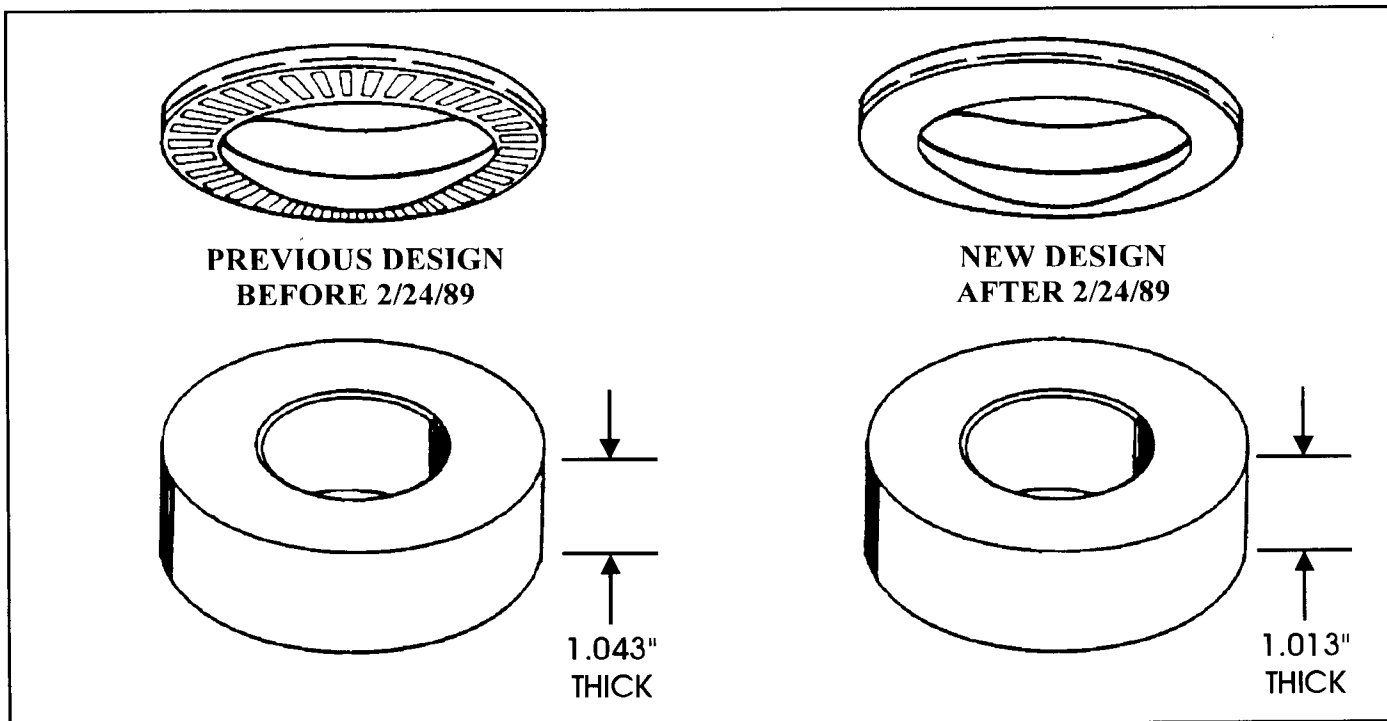

Figure 30
- (1) **LOW ROLLER CLUTCH INNER RACE** - As of 2/24/89, the Low Roller Clutch Inner Race height has been reduced by .030" to accommodate a revised hub to race thrust bearing. The previous inner race height was 1.043" and the new design is 1.013", as shown in Figure 30.
- (2) **HUB TO RACE THRUST BEARING** - The previous thrust bearing was a **2 Piece** (open face) design, and the new design is a **3 Piece** (closed) design bearing. The thickness of the previous 2 piece thrust bearing is .110" thick, and the new design 3 piece bearing is .140" thick, so that it is compatible with the new thinner inner race (See Figure 30).